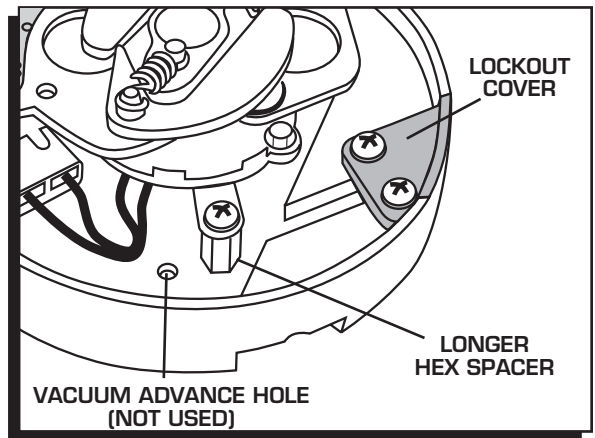

Figure 13 Vacuum Lockout Installed.
4. Install the plastic cover to seal the distributor housing using the original advance hold down screws (Figure 13).